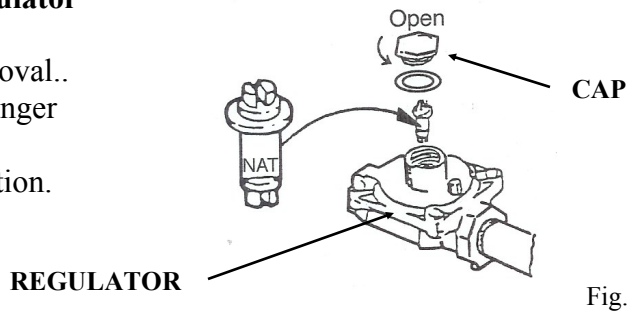

Fig. 2
- Remove cap from regulator and snap out plastic plunger from bottom of cap. See Fig. 2